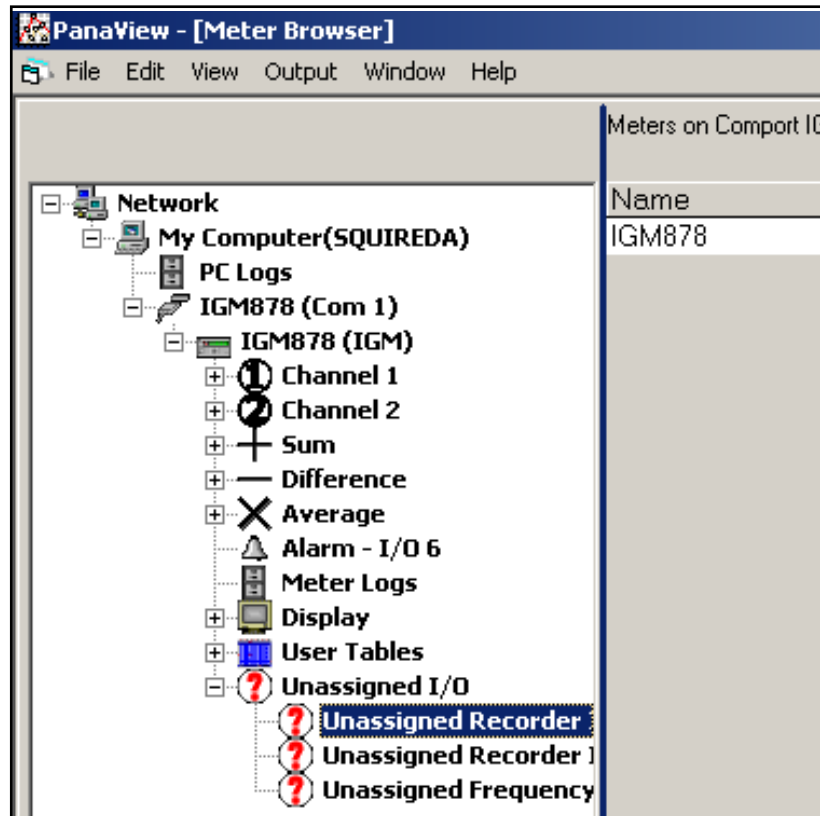

Figure 42: PanaView Meter Browser Menu
With PanaView installed on your computer (see the *PanaView Graphical Interface User's Manual*), you can enter and record the meter information in a number of different ways. The **Meter Browser Menu** is illustrated in *Figure 42* below.
3. To enter values for **Channel 1**, click on the + sign before each level to open it (see *Figure 42 on page 56*).